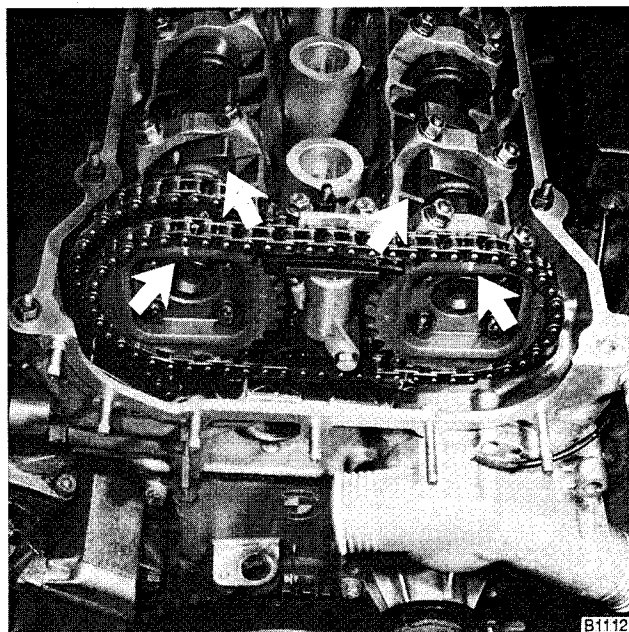

Fig. 38. Camshafts positioned at TDC—Cyl. No. 1 cam lobes face in Note 0/T mark (0°TDC) on vibration damper aligned with boss on front cover.
3. Set engine to TDC by rotating engine in normal operating direction until camshaft lobes at cylinder no. 1 are facing each other and "0/T" mark (0°TDC) on vibration damper lines up with cast boss on lower timing chain cover. See Fig. 38.